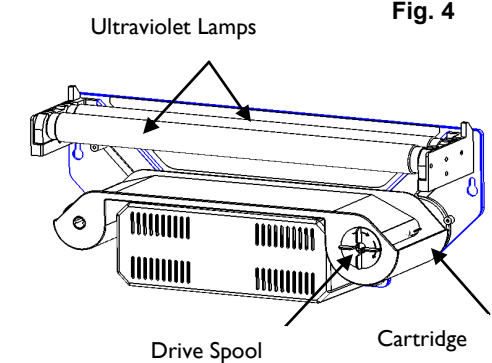

Fig. 4
2. Rotate the drive spool of the cartridge in the direction of the arrow shown on the drive spool until the glue surface spans the full length of the cartridge. (fig. 4)
3. Position the cartridge on the front of the motor enclosure. Push the cartridge in until it stops. (fig. 4 & 5)